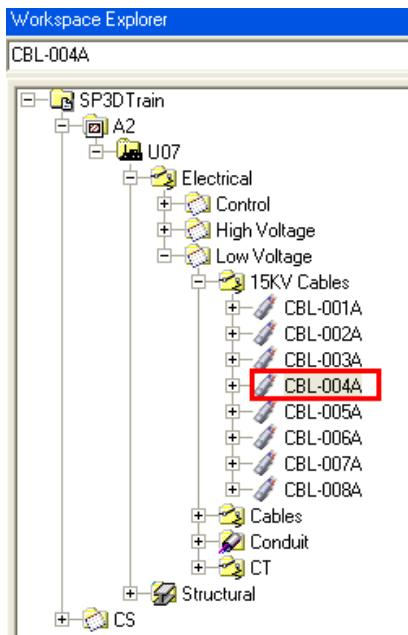

Figure 27: Workspace Explorer
3. In the **Workspace Explorer**, select CBL-004A, as shown in Figure 27.